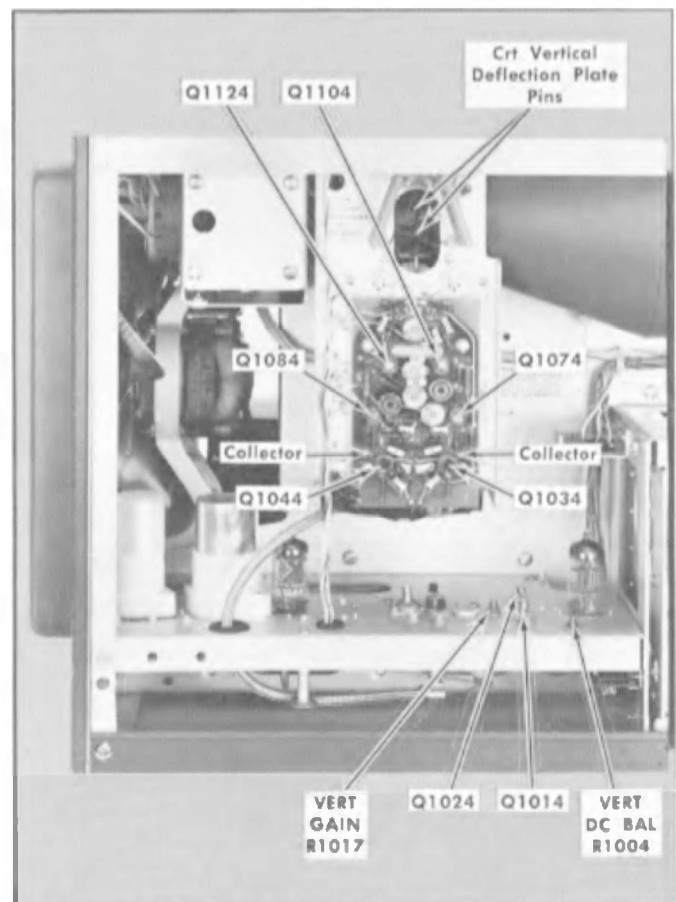

Fig. 5-4. Vertical Amplifier test points and adjustment locations for performing steps 9 and 10.
- Using a small screwdriver, short the crt vertical deflection-plate pins together (see Fig. 5-4).
- d. Short the cases of Q1074 and Q1084 (see Fig. 5-4) together (not to ground) and note the trace deviation from electrical center. Deviation should not be more than 0.5 cm maximum. Remove the short.
- e. Short the collector of Q1034 to the collector of Q1044 (see Fig. 5-4) and note the trace deviation from electrical center. Deviation should not be more than 0.5 cm maximum. Remove the short.
- f. Short the cases of Q1014 and Q1024 (see Fig. 5-4) together (not to ground) and note the trace deviation from electrical center. Deviation should not be more than 0.5 cm maximum. Remove the short.
- h. Adjust VERT DC BAL R1004 (see Fig. 5-4) to position the trace to the center of the graticule.
- e. Adjust VERT GAIN R1017 (see Fig. 5-4) so the display vertical deflection is exactly 4 cm in amplitude.